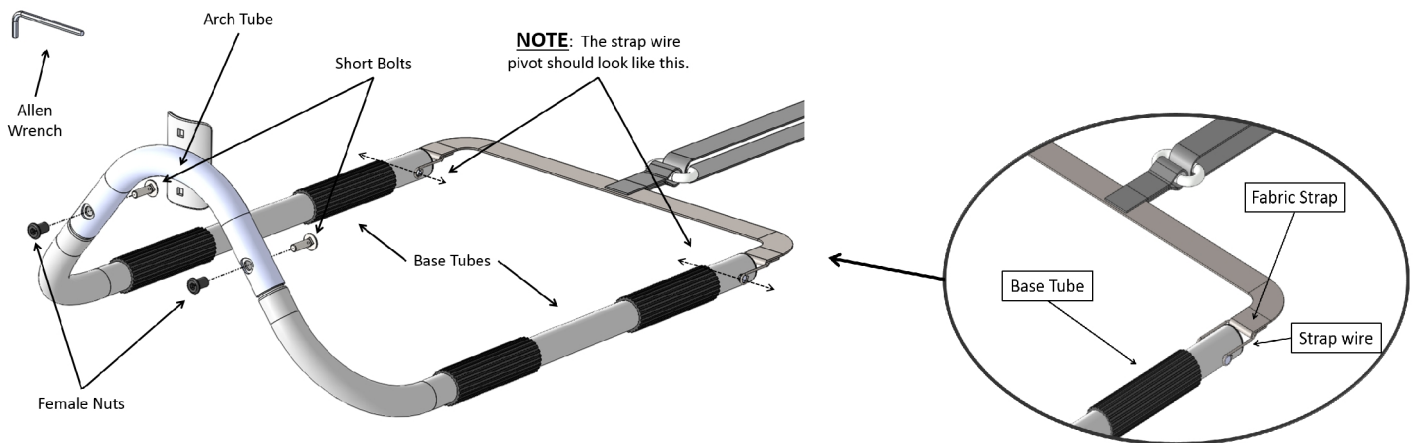

FIGURE 2
2. Attach the Arch Tube to the Base Tubes with Short Bolts and Female Nuts using the Allen Wrench, as shown in Figure 2.
NOTE: The strap wire at the end of the Base Tubes should be oriented as shown in Figure 2.